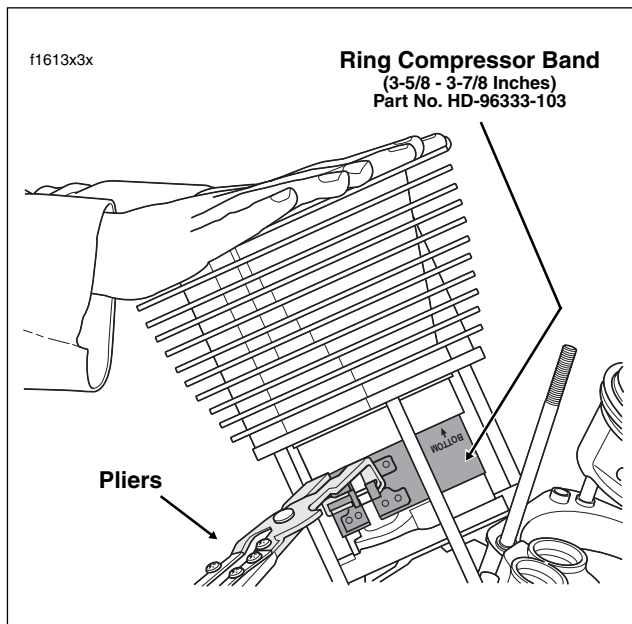

Figure 3-32. Install Cylinder
- e. Place the palms of both hands at the top of the cylinder. Push down on the cylinder with a sharp, quick motion to pass the piston ring area. See Figure 3-32.